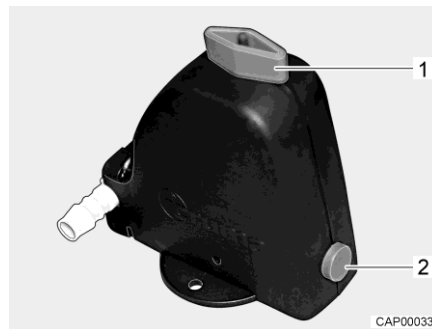
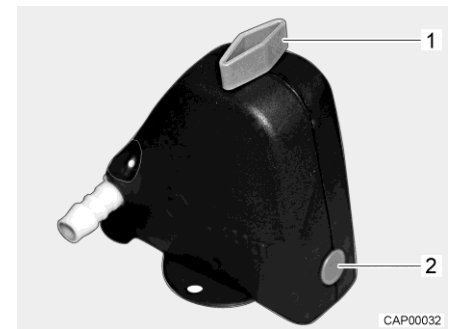

Fig. 86 Safety/drainage valve open
Fig. 87 Safety/drainage valve closed
- Close the safety/drainage valve. Turn the knob (Fig. 86,1) perpendicular to the safety/drainage valve and push the push button (Fig. 86,2) in. The closed safety/drainage valve is shown in Fig. 87. If the temperature is below 6 °C, the safety/drainage valve cannot be closed.